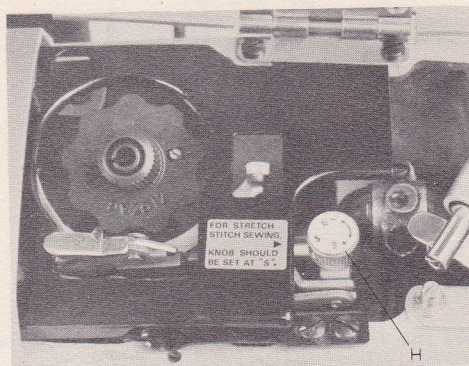

Fig. 28. Buttonhole Adjusting Knob
You can adjust your machine to make a perfect buttonhole for the type of fabric you are using. You may prefer a tight satin stitch for fine fabric or a more open stitch for heavy fabrics. For more open stitching on the right side, turn knob (H), Fig. 28, clockwise toward the plus ("+") position. Turn counterclockwise toward the minus ("-") position for a closer satin stitch on the right side of the buttonhole.